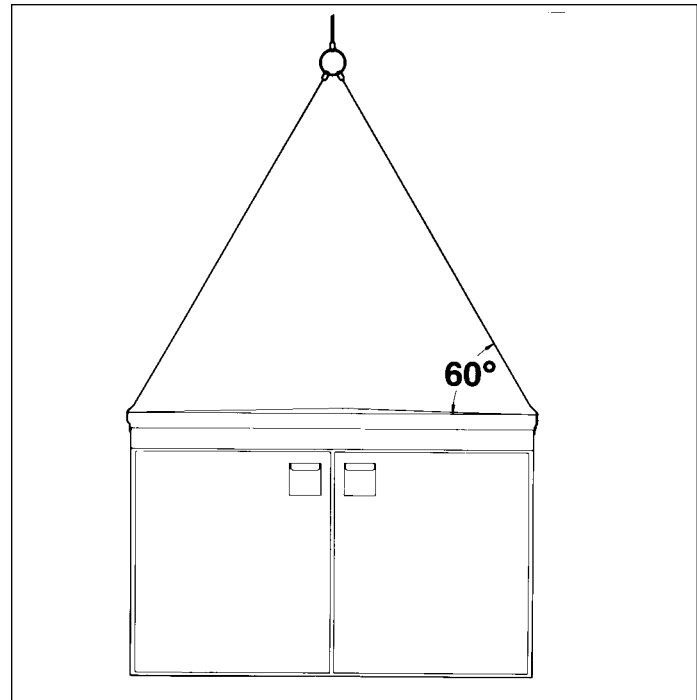
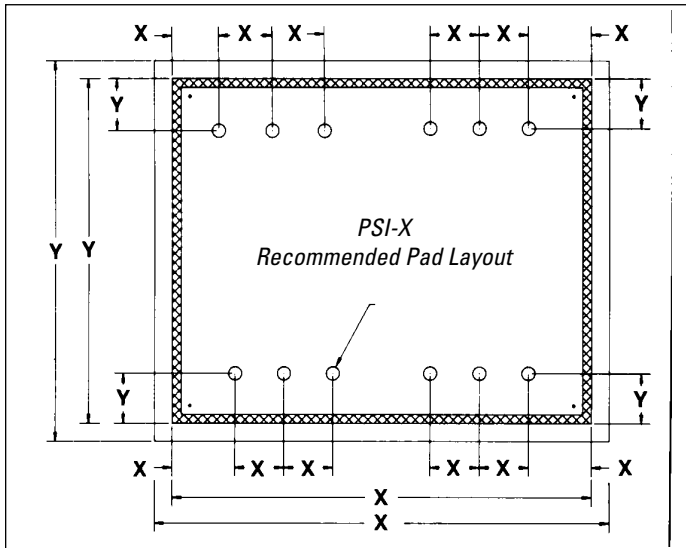
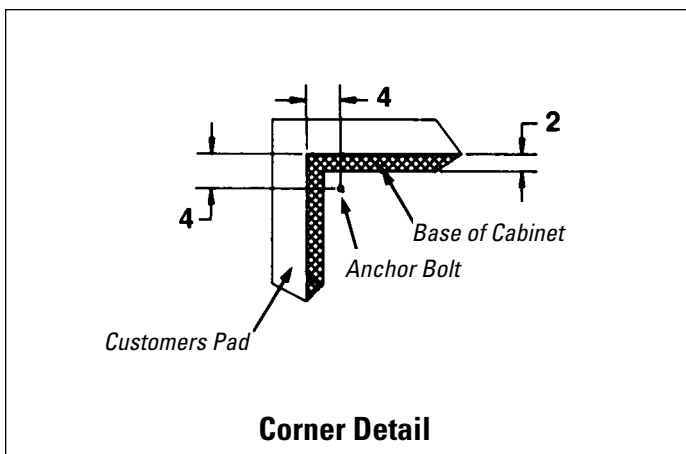

Figure 1. Lifting Method
Figure 2. Typical Pad Layout
Figure 3. Typical Anchor Bolt Location
Removable lifting plates are provided to allow the use of hooks to lift the complete enclosure. The lifting device should be arranged to evenly distribute the lifting force between the lifting plates. Do not lift at an angle less than 60 ° from the horizontal. (See Figure 1)
Remove unit from shipping pallet per handling procedures of Page 2 (Figure 1). When unit has been correctly oriented and placed on pad (Figure 2), verify that unit is level and shim if necessary between unit base and pad. Secure unit to pad using four (4) tie-down clips as furnished (see Figures 3 and 4). Check compartment door operation for any binding due to enclosure distortion and re-shim if necessary. A recessed grouting should then be applied between unit base and pad to prevent entry of foreign objects.